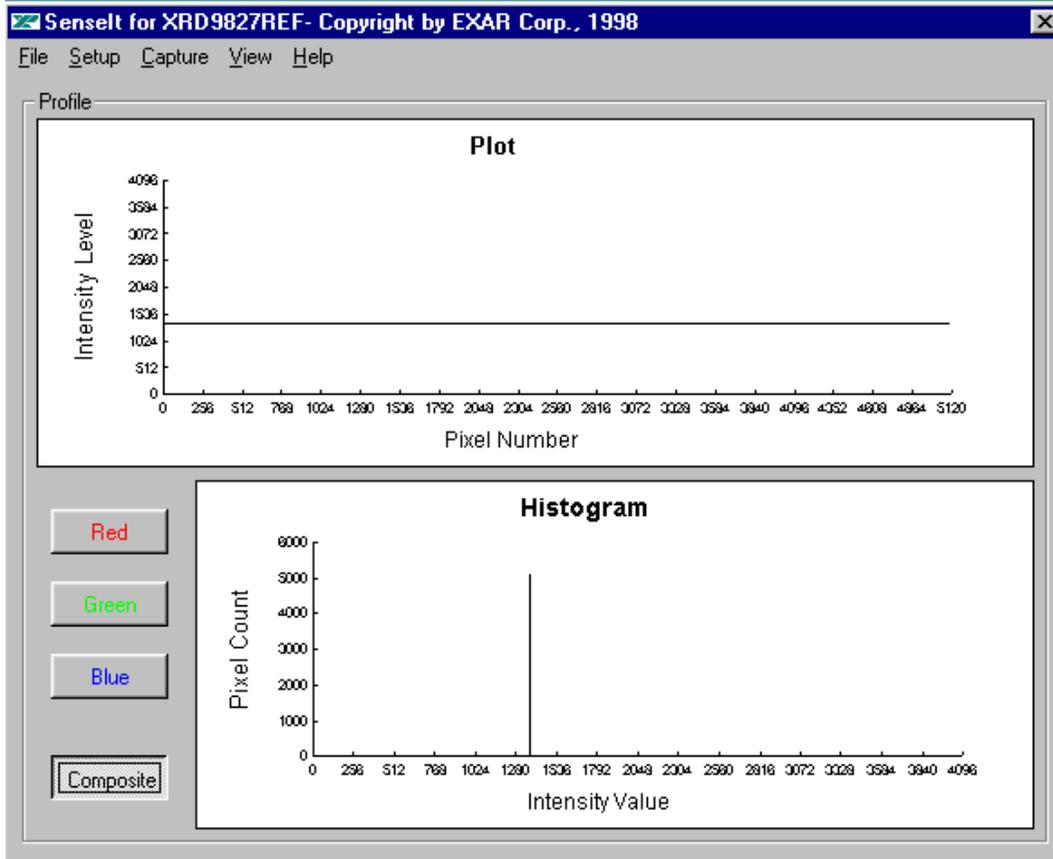

Figure 4. Senselt Software Window Before Scanning
3. A window will pop up as shown below. The upper window shows the plot of captured data and the lower window shows the histogram of data. Figure 4 shows the pop-up window when Senselt is first started.